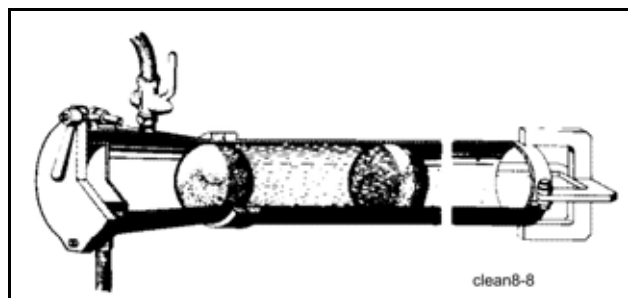

Fig. 248 Rinsing the pumping line
- To do this, press a soft sponge rubber ball about 1 m into the pumping pipe (**Fig. 248**).